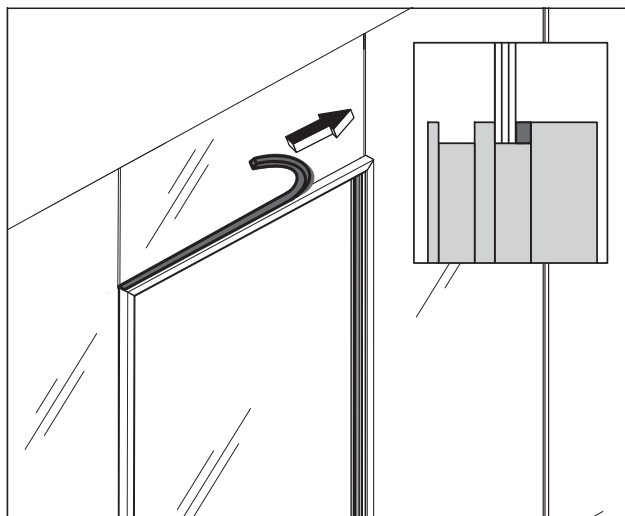

Fig. 29 Mounting the foam rubber seal to the overpanel
4. Press a suitably cut piece of foam rubber seal into the joint between the acoustic element frame and the over panel along the entire length. Make sure the foam rubber seal is flush with the acoustic element frame (Fig. 29).